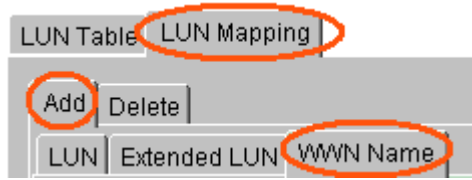

Figure 9-24: WWN Tabs
Step 2. Select the **LUN Mapping** tab shown at the top of the *LUN Map Table*. A new screen will appear in the content window. From this screen first select the **Add** sub-tab, and then click on the **WWN Name** sub-tab. (See *Figure 9-24*).